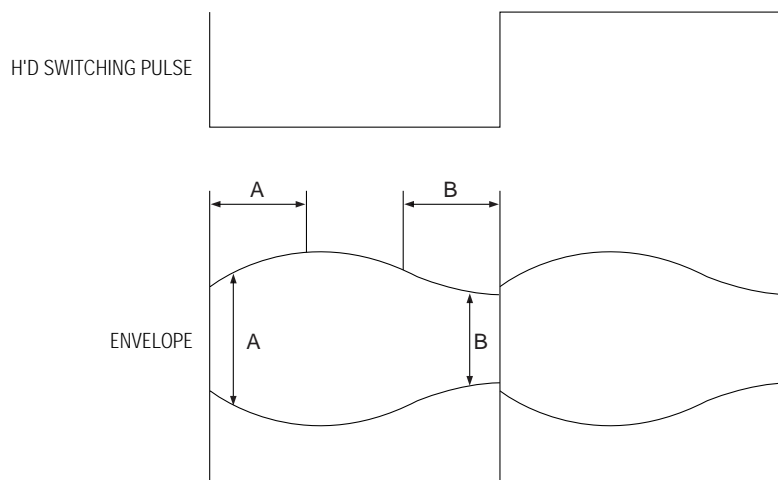

Fig. 6-10 Adjustment Points
- 4) If the section A in Fig. 6-10 does not meet the specification, adjust the guide roller S up or down.
- 5) If the section B in Fig. 6-10 does not meet the specification, adjust the guide roller T up or down.